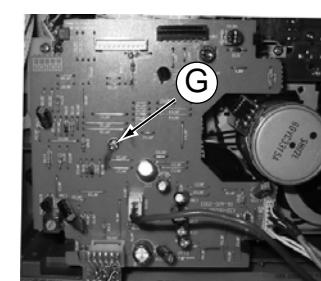

Figure 8
- 4) Loosen 1 screws ' G' to remove the Tape Board figure 8.